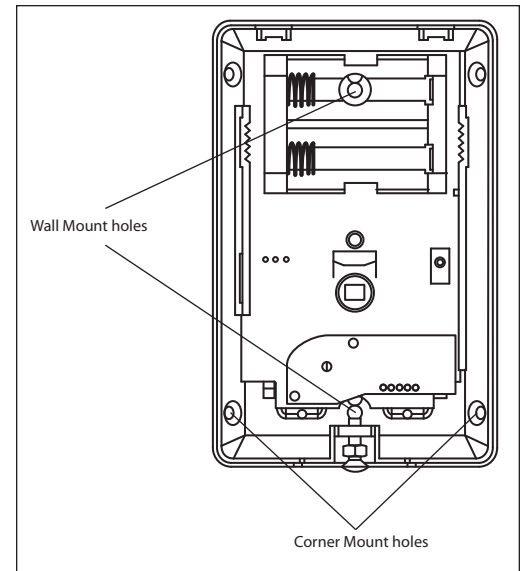

Figure 3: Mounting Holes
3. Select the appropriate mounting holes on the back cover for either corner or flat wall mounting. See Figure 3.